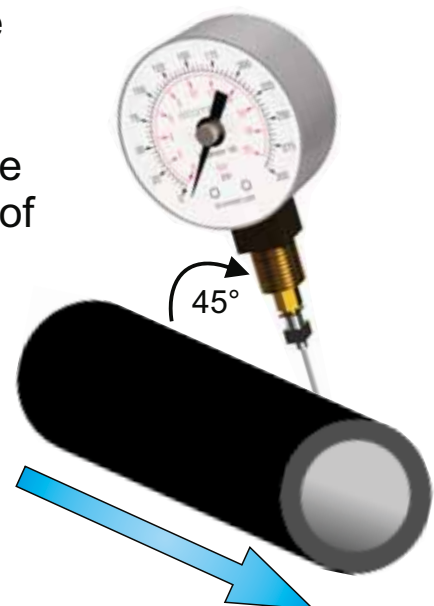

Figure 3
- 4 Slowly but firmly insert the needle into the hose at a 45 degree angle from the flow of air / abrasive (see Figure 3).